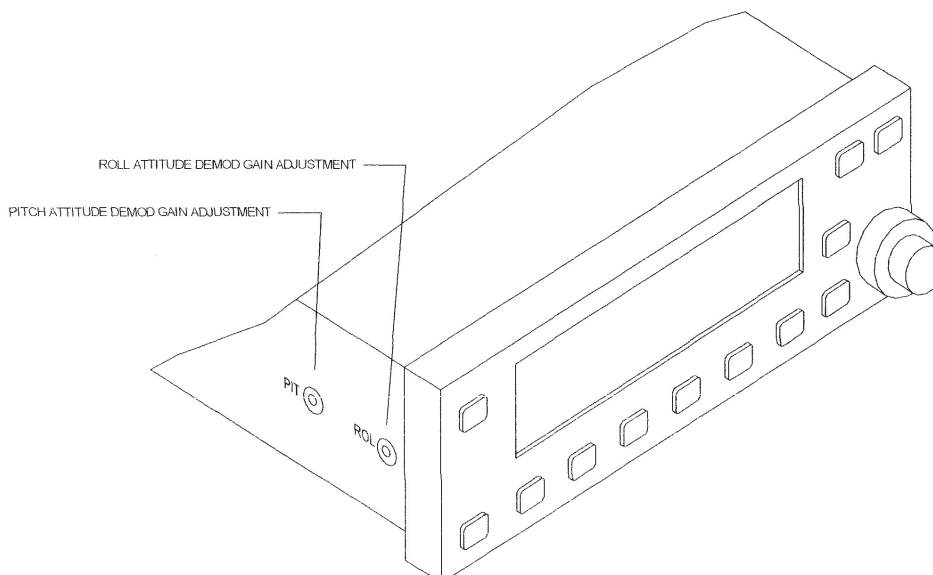

Figure 5-4, Pitch/Roll Demod Gain Adjustment Pots
6. Locate the adjustment pots on the left hand side of the unit (reference Figure 5-4, Pitch/Roll Demod Gain Adjustment Pots) and using a screwdriver adjust the PITCH attitude demod gain pot until [10°+ the PITCH offset that was recorded when the attitude gyro was level] $\pm 0.5^\circ$ is indicated.
9. Locate the adjustment pots on the left hand side of the unit (reference Figure 5-4, Pitch/Roll Demod Gain Adjustment Pots) and using a screwdriver, adjust the ROLL attitude demod gain pot until [20°+ the ROLL offset that was recorded when the attitude gyro was level] $\pm 0.5^\circ$ is indicated.